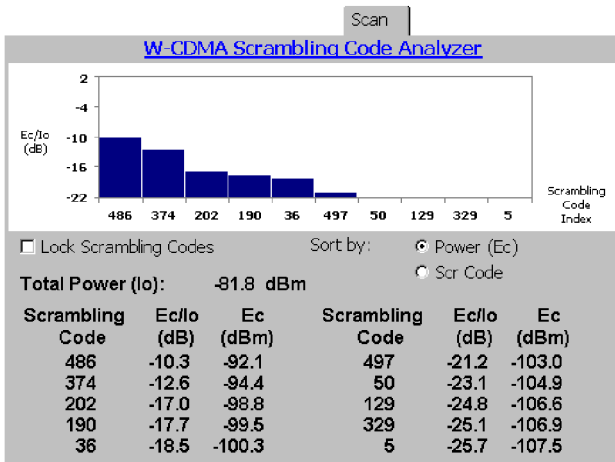

Figure 3-26: W-CDMA Scrambling Code Analyzer display
6. Tap the **Scan** tab. See Figure 3-26.
- **Power (Ec)** to sort by descending Ec level. (See Figure 3-26.)
- **Scrambling Code (SC)** to sort by ascending Scrambling Code index.